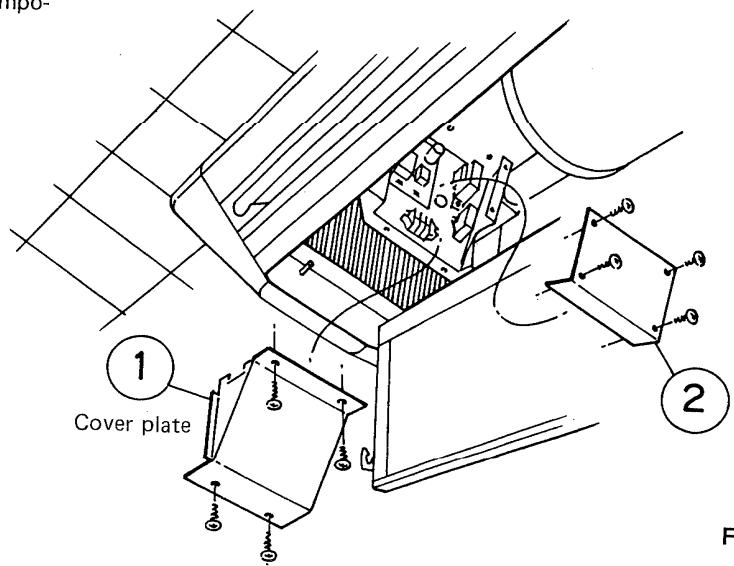

Fig.3
- 4) Remove the cover plates ① and ② of the electrical component box. Fig.3